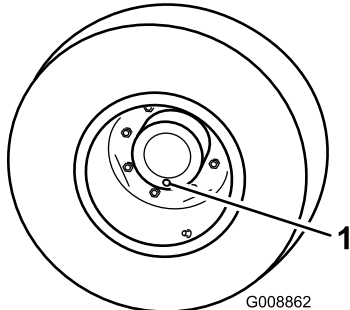

Figure 53
1. With the machine on a level surface, position a wheel so that 1 of the check plugs is at the lowest (6 o'clock) position (Figure 53).